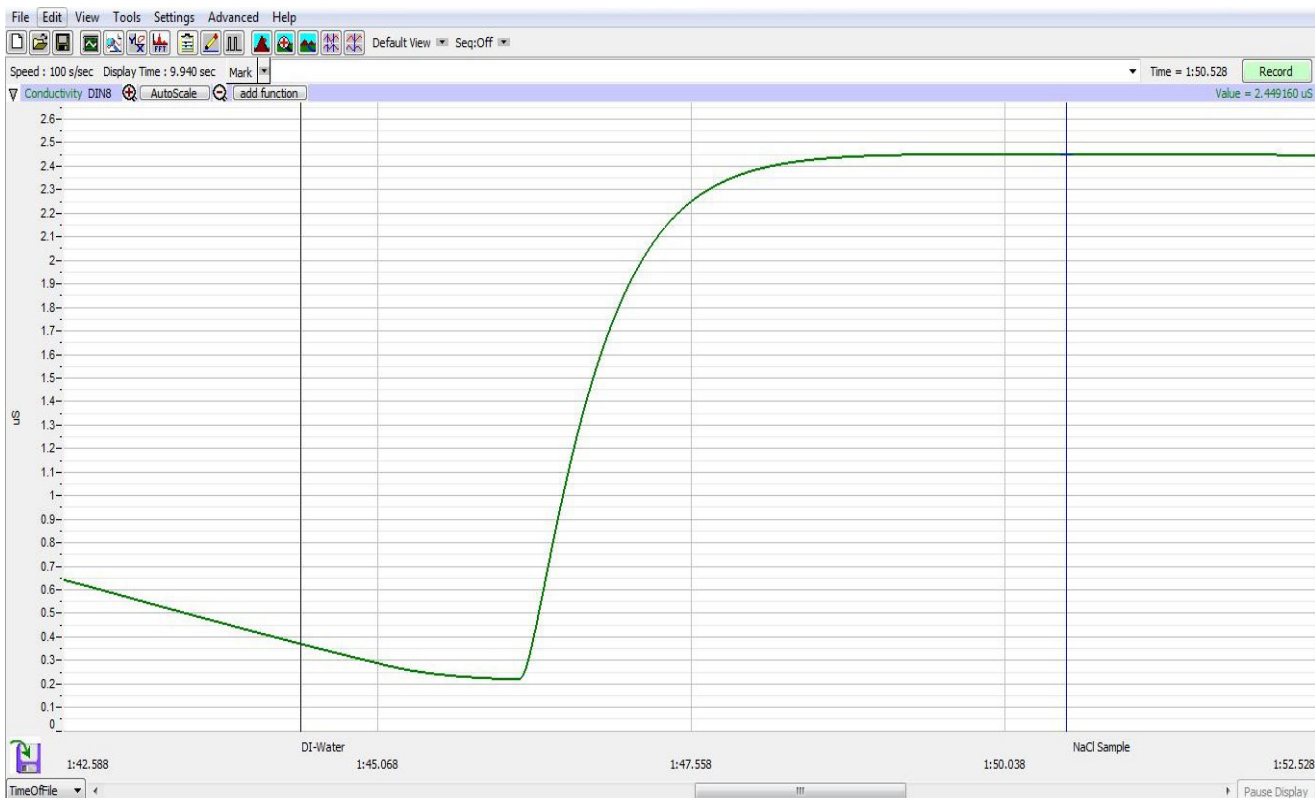

Figure GB-6-L1: Recording showing the conductivity of a solution in the Main window.
8. When the recording on the Conductivity channel reaches a stable baseline, type 0.05 NaCl in the Mark box to the right of the Mark button. Press the Enter key on the keyboard to mark the recording. The recording should look like Figure GB-6-L1.